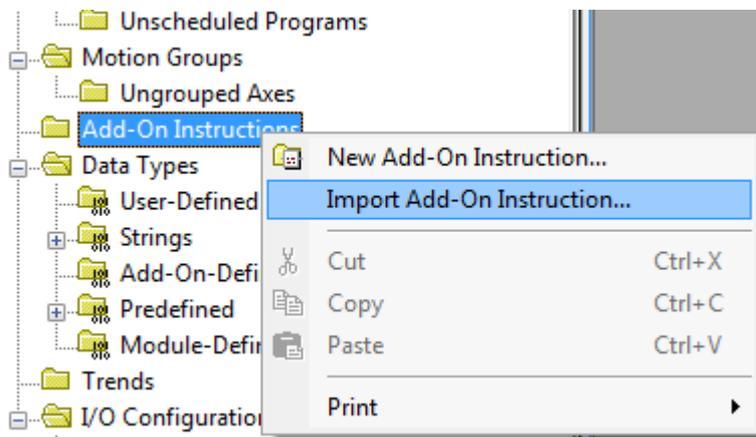

Figure 1 Import Add-On Instruction
3. Select the Add-On Instruction file “VLT”, located where you stored the file. The file selection window is illustrated in Figure 1 Import Add-On Instruct